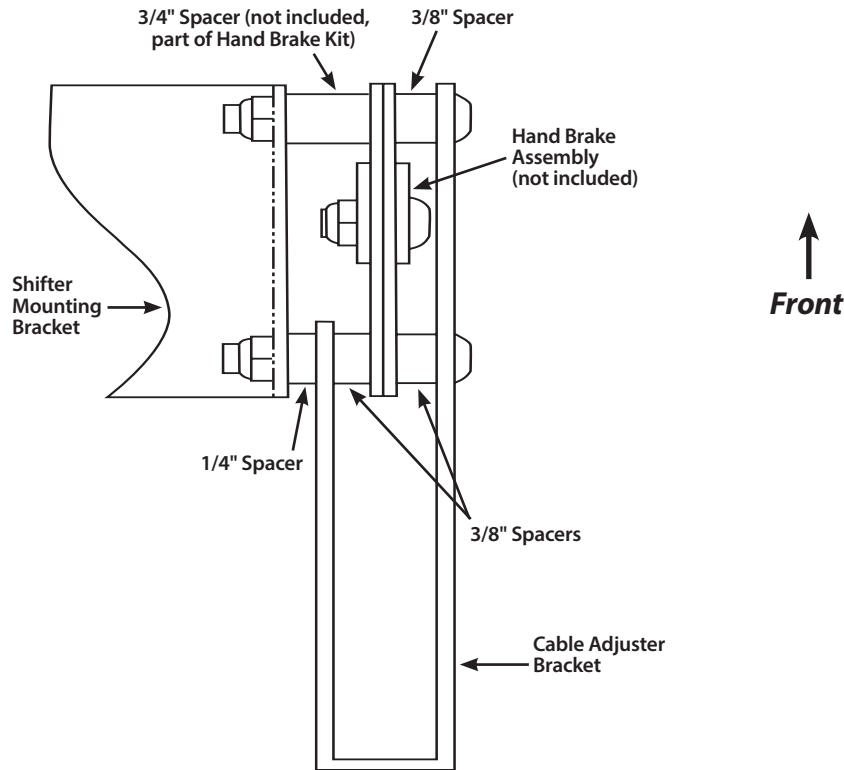

Fig. 5
Step 3, Trans Mount Hand Brake Only: The cable adjuster bracket will be installed at the same time as the Lokar Hand Brake assembly. Included in the Emergency Brake Cable Kit there are three 3/8" spacers and one 1/4" spacer to center the Hand Brake in the cable adjuster bracket. On the front mounting bolt, install one 3/8" spacer on the right side between the cable adjuster bracket and the Hand Brake, and one 3/4" spacer (not included, part of the Trans Mount Hand Brake kit) on the left between the Hand Brake and the shifter mount bracket. On the rear mounting bolt, install one 3/8" spacer on the right between the cable adjuster bracket and the Hand Brake; one 3/8" spacer on the left between the Hand Brake and the brake cable bracket; and one 1/4" spacer between the brake cable bracket and the shifter mount bracket. **Fig. 5**